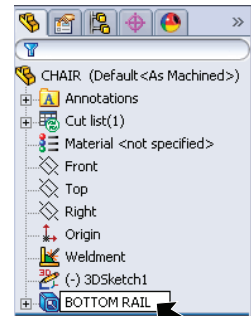

Fig. 16
Step 1. Rename **Structural Member1** to **BOTTOM RAIL** in the Feature Manager, **Fig. 16**. To rename, click **Structural Member1** name in Feature Manager and press **F2** on keyboard. Key-in **BOTTOM RAIL**.